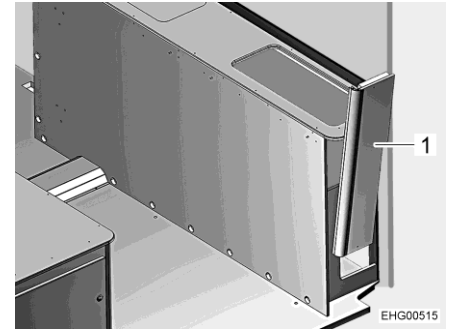

Fig. 118 Bedding box on the right, side wall
- Remove the side wall (Fig. 118,1) upwards with light shaking movements.